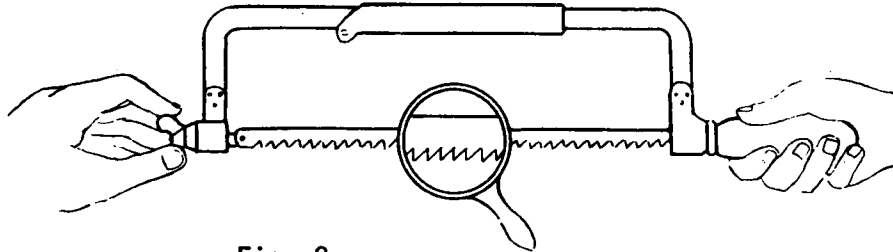

Fig. 2
- b) Fit the blade to the frame with the teeth facing forwards (Fig. 2).
- c) Tighten the blade by turning the screw by hand (Fig. 2).